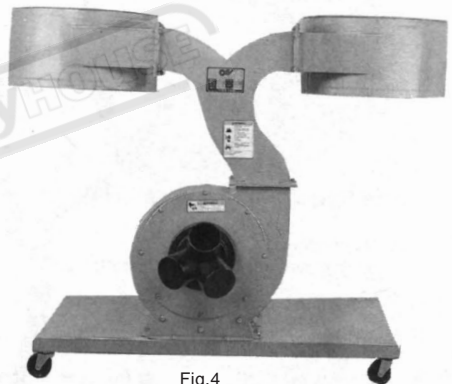

Fig.4
- 4 Attach collector housings to collector tube with hex head bolts, washers, and nuts. Be sure that inside deflector of each housing spirals downward toward the collector bag. Check that holes in housings are on the same side as holes in base. See Figure 4.